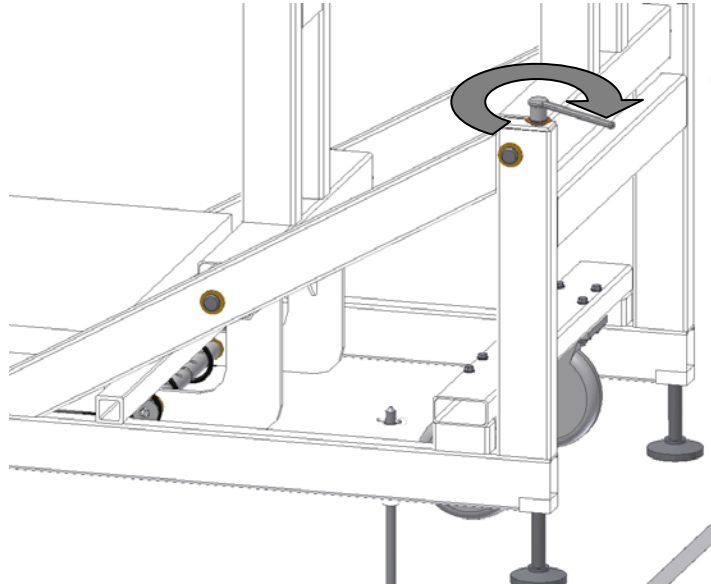

Figure 6-1: Lower feet using supplied socket wrench.
1. Lower both feet (Figure 6-1) using the supplied socket wrench until both side 2-by-4's of the base are level (Figure 6-2).
1. Lower both feet (Figure 6-1) using the supplied socket wrench until both side horizontal 2x4's of the base are level (Figure 6-2).